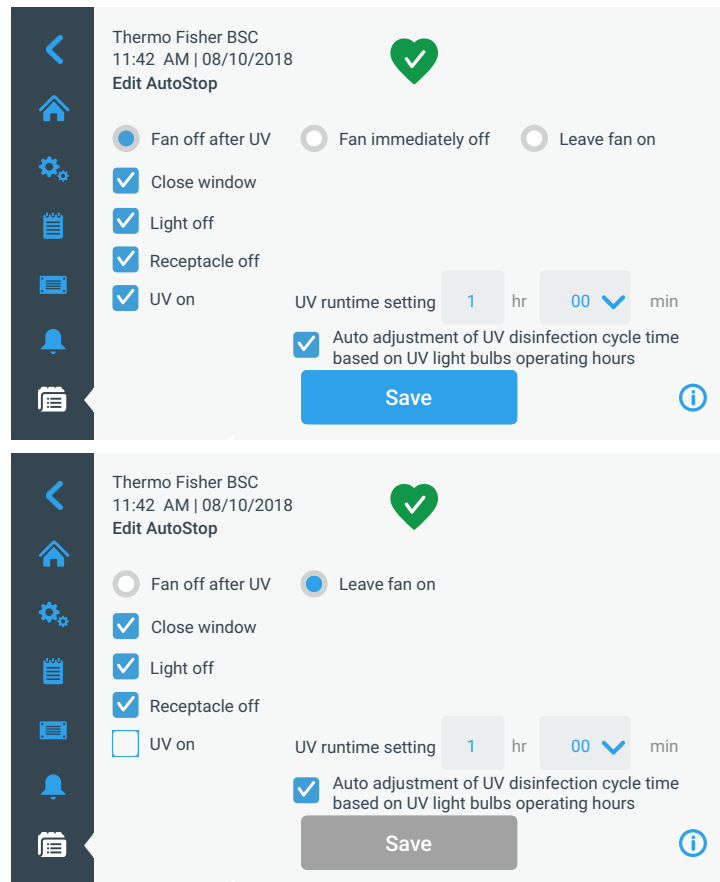

Figure 76 “Programs” Screen: “Edit AutoStop” Screen
Doing so will open up the “Edit AutoStop” screen shown in Figure 76 below. By default, the “Edit AutoStop” screen comes up with the “Fan off after UV” option and all remaining checkboxes selected (top image in Figure 76).
5. When you are done choosing AutoStop options, tap the “Save” button (bottom image in Figure 76).